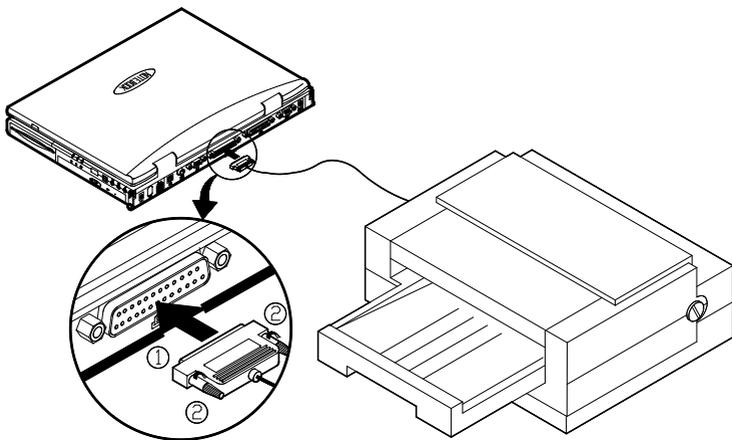

Figure 2-25
3. Tighten the screws to fasten the cable to the parallel port (Figure 2-25).